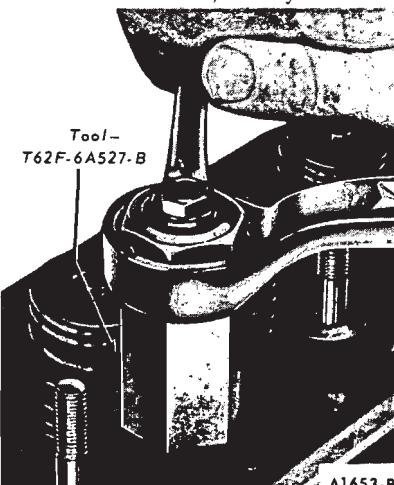

FIG. 19—Removing Rocker Arm Stud—240 Six, 302-W and 351 V-8
1. Position the sleeve of the rocker arm stud remover (tool T62F-6A527-B) over the stud with the bearing end down. When working on a 302 or 351 CID cylinder head, cut the threaded part of the stud off with a hack saw. This is necessary due to the puller being designed for 3/8-inch studs and will not grip the 5/16-inch thread on a 302 or 351 CID cylinder head stud. Thread the puller into the sleeve and over the stud until it is fully bottomed. Hold the sleeve with a wrench, then rotate the puller clockwise to remove the stud (Fig. 19).